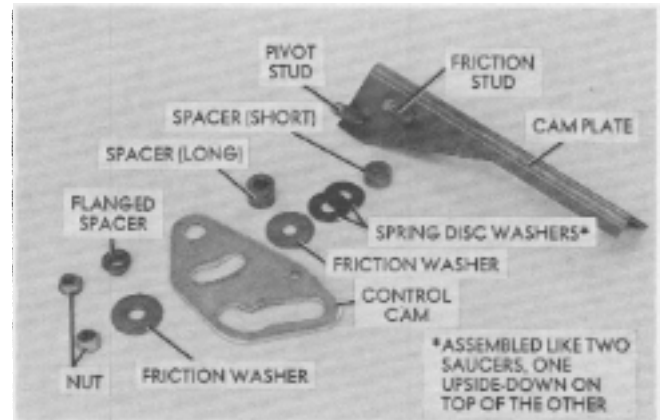

FIG. 29. Cam Plate Disassembled
- Fig. 29 shows cam plate pivot and friction assembly sequence.